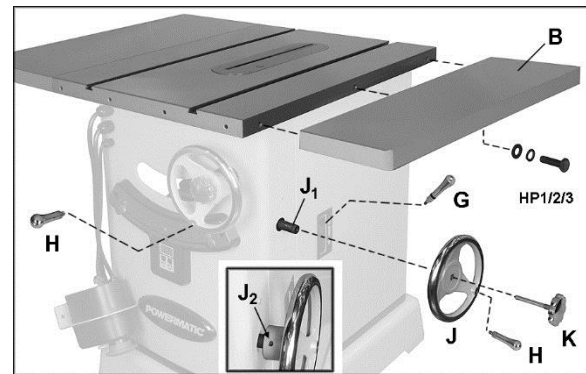

Figure 6-3: installing accessories
See Figure 6-3.
1. Remove tape from around shaft to expose threads and shaft key (J₁, Figure 6-3).
5. Install locking knob (K, Figure 6-3) and handles (H). Use wrench on flat of handles to tighten against handwheels.